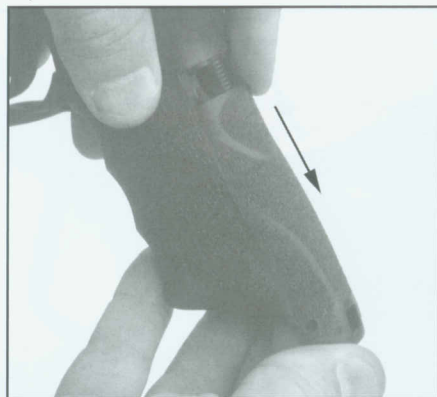
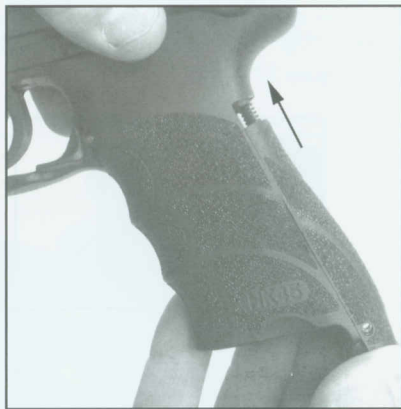

Figure 19
Figure 21
3. When the pin is removed, the grip panel can be slid downward off the frame (Figure 19).
1. Place the replacement grip panel on the back of the frame approximately 1 inch lower than its assembled position and push the grip panel up onto the grip rails (Figure 19). Continue to slide the grip panel upward until it fits flush and there is no gap between the top of the grip panel and frame (Figure 21).